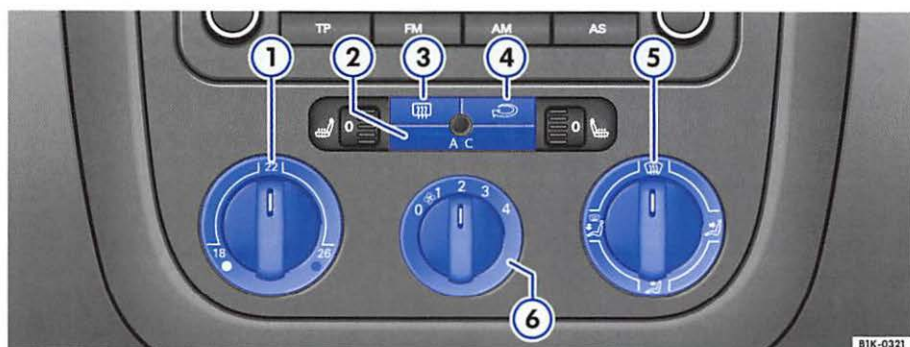

Fig. 74 In the center console: Climatic controls
- Turn the temperature selector ⇒ fig. 74 ① to the right until the desired heat output is reached. We recommend 22° C.
- Turn the fan switch ⑥ to one of the settings 1-4.
- Use the air distribution control ⑤ to guide the air flow where you want it: (to the windshield), (into the vehicle interior), (to the footwells) and (to the windshield and to the footwells) ⇒ page 77, "Air recirculation mode".
- Switch on the air conditioning by pressing the ⇒ fig. 74 AC button (the indicator light in the button should be on).
- Use the air distribution control ⑤ to guide the air flow where you want it: (to the windshield), (into the vehicle interior), (to the footwells) and (to the windshield and to the footwells).